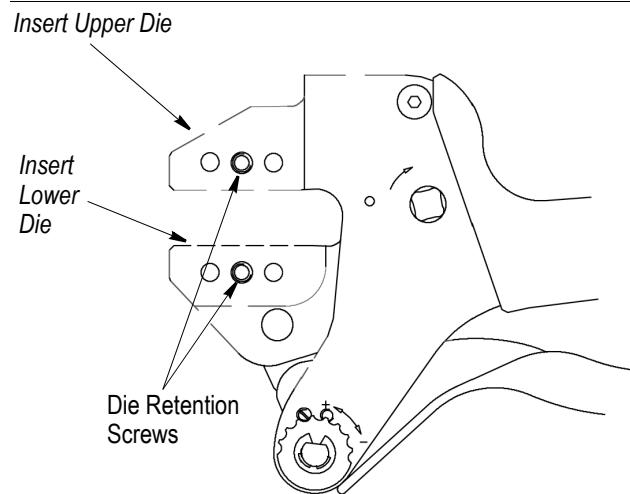

Figure 2
3.1. Installation of Shouldered Dies (Figure 2)
Die assemblies with center contact crimp sections should be installed with the center contact crimp section toward the front of the tool jaws as shown in Figure 2. If indicated otherwise in other instructions, follow the specific die requirements demonstrated in that document.